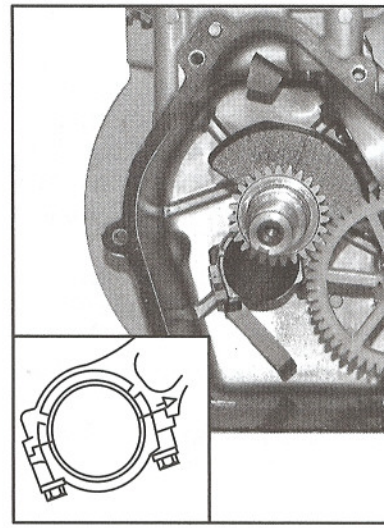

Fig. 21
5. Pull connecting rod against crankpin and install rod cap with match marks aligned, Fig. 21.